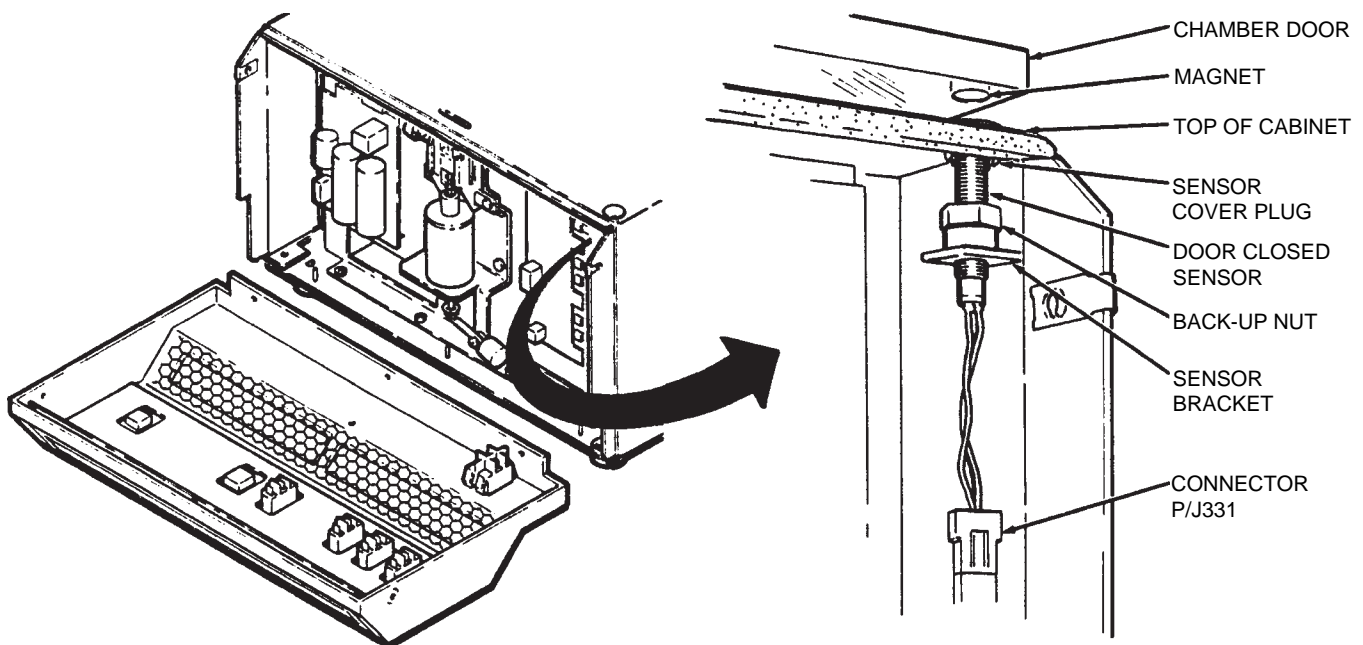

Figure 5-2. Door Closed Sensor Parts Location
3. Disconnect P/J 331 (refer to figure 5-2). Loosen the back-up nut. Then, while holding the back-up nut, remove and discard the old door closed sensor threading it out through the *bottom* of the bracket.